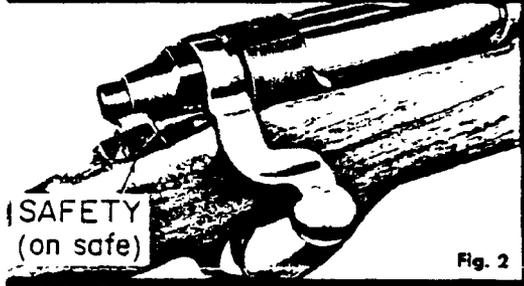

Fig. 2
**SAFETY** — (Fig. 2) Close bolt and rotate safety rearward to ON SAFE position. Side lever type safety is located at right rear of receiver. With safety in rear stop position, trigger cannot be pulled to "fire" gun. When safety is ON SAFE bolt handle cannot be raised to unlock and open action.